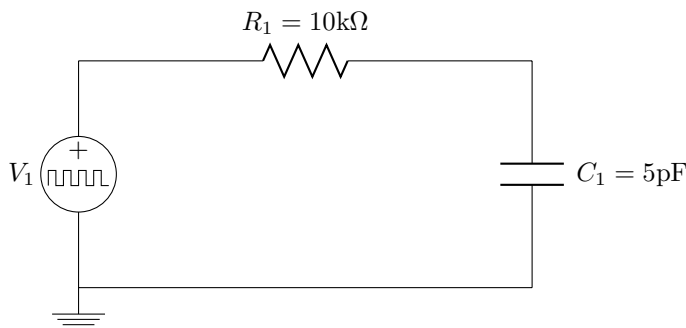

Figure 2:
1. Creating the Circuit: You will start by creating the circuit shown in Figure 2 in the Multisim workspace.